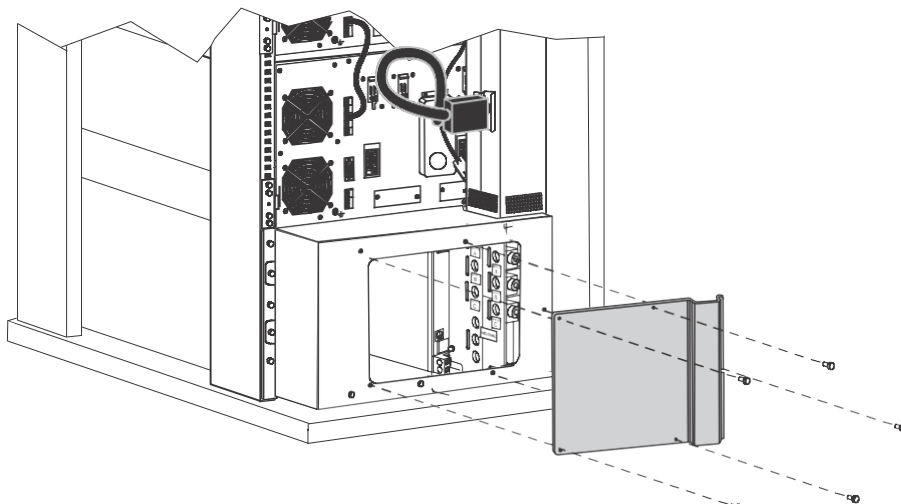

Figure 21. Removing the Wireway Access Cover (Bottom Entry Rack Shown)
2. Remove the five screws on the bottom entry wireway access cover and retain. Remove the cover and retain (see Figure 21).